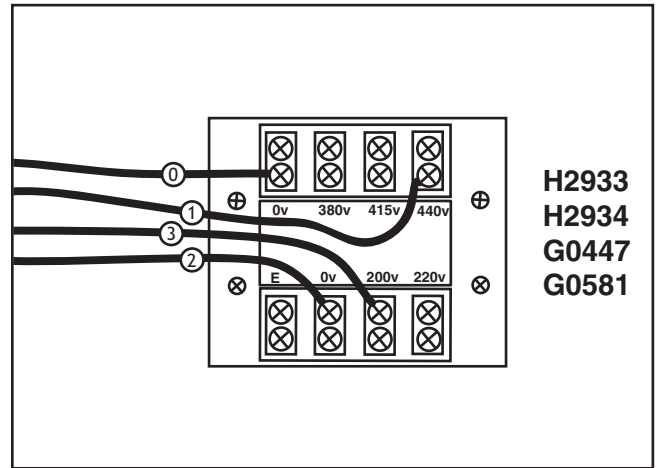

Figure 7. 440V transformer connections.
3. On the transformer, remove the wire connected to the 220V terminal and connect it to the 440V terminal, as shown in **Figures 7**.